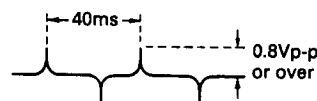

Figure 50.
2. Monitoring TP6 with an oscilloscope (internal trigger), check that the requirements given in Figure 50 are met.